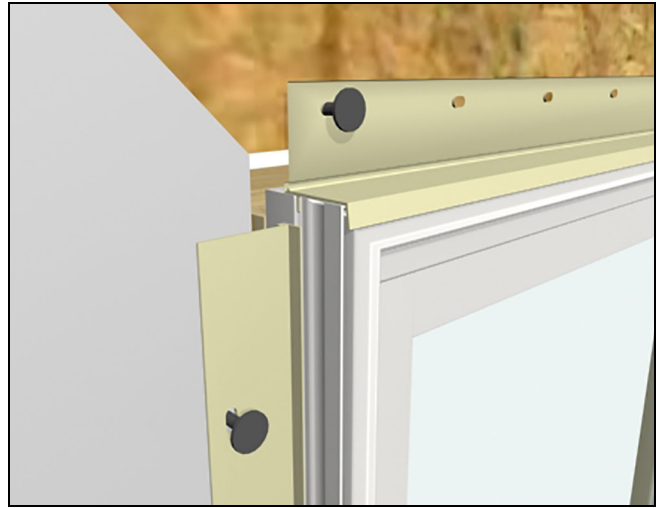

Figure 12
2. Once level, tack the jamb nailing fin with 2" (51) roofing nails within in 4" (102) from the head jamb (or fasten top brackets if applicable, follow instructions sent with brackets). If fastening through the exterior casing, use 16d casing nails. See Figure 12.